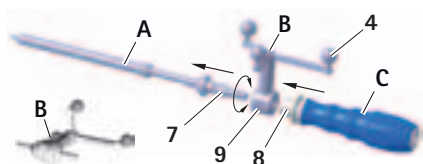

Fig. 4 Mounting the IGS Tool Star Unit and S⁴C handle onto the S⁴C screw tap
- Release locking sleeve **8**, see Fig. 4.